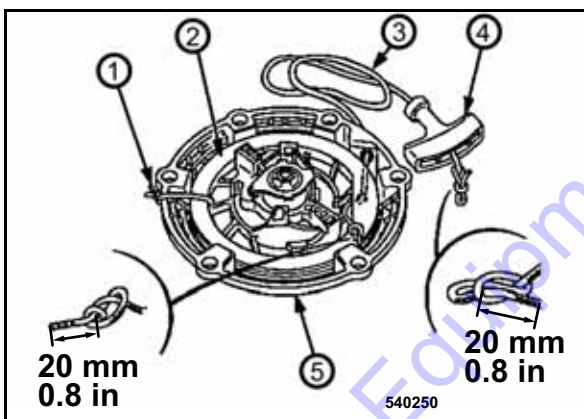

Fig. 71
- Secure the coil (2) (Fig. 71) against winding up. For this purpose fix coil and housing (5) with a cable strap (1).
- Thread in the new starter rope (3) and fix at both ends with knots.